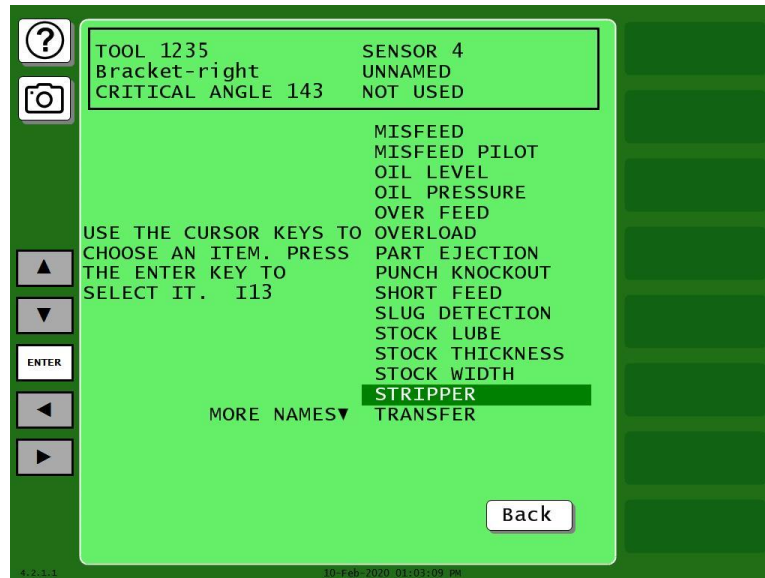

Figure 5-23. Sensor Names Screen
When you select a sensor to program on the Die Protection Sensor Menu, the Sensor Names screen, Figure 5-23, displays.
1. On the Sensor Settings screen, select the setting you want to change. The screen on which that setting is programmed displays. For example, if you select the SENSOR NAME setting, the Sensor Names screen (Figure 5-23, page 127) displays.